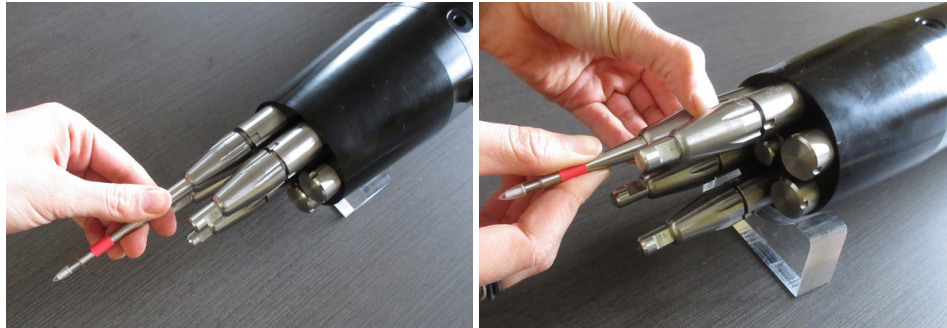

Figure 12: Inserting a probe into a probe holder.
1. Connect and tighten the microstructure probes to their appropriate SMC cables. Insert the sensors into the probe holders (Figure 12). **Make sure the probes are fully seated.**